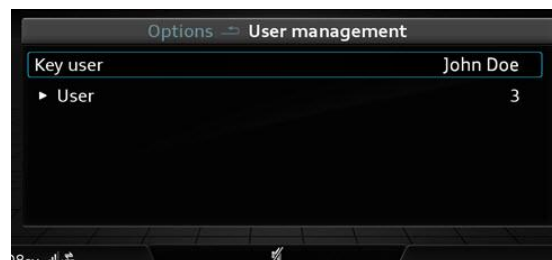

Figure 4. Key User assigned with three secondary users.
1. Verify that the user is a Key User of the vehicle. In the MMI, navigate to *MENU >> Audi connect*, then the right option and choose *Audi connect user management*. If the customer is a Key User, his or her email address or myAudi username will be listed (Figure 4).